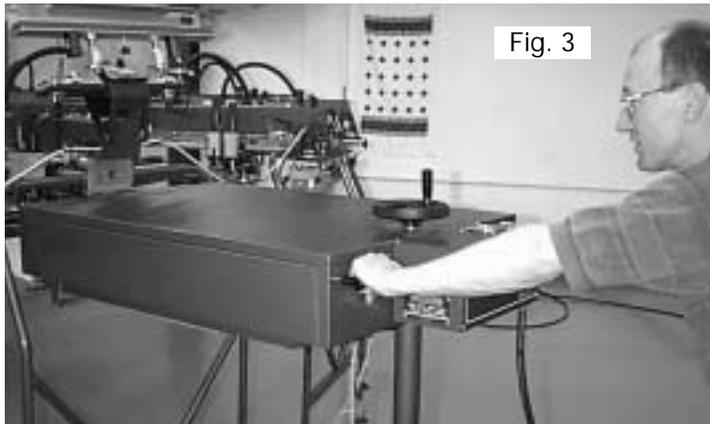

Fig. 3
3. Roll the M&R Omni/Uni Flash cure unit into position, in line with the selected print station. (See Fig. 3)